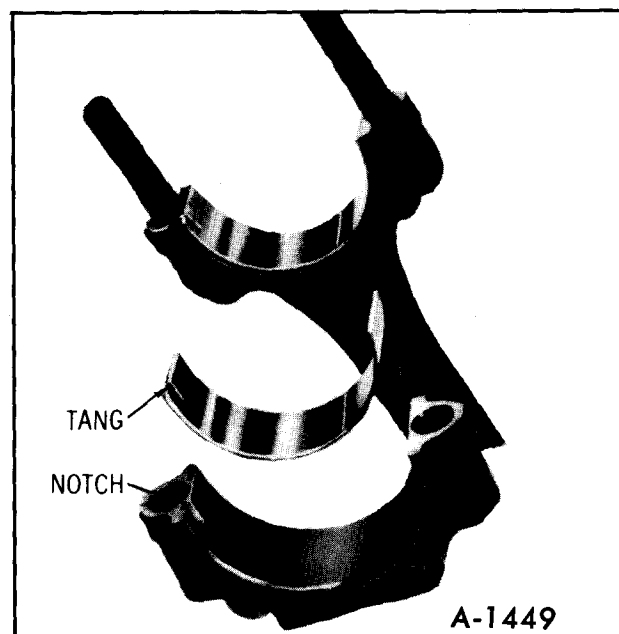

Figure 42—Bearing Tang and Notch
- 1. Place a strip of .0015" feeler gauge against the upper side of the bore, at 90° to the normal piston pin location. Attach a scale which measures in pounds to a feeler gauge. See Figure 42.